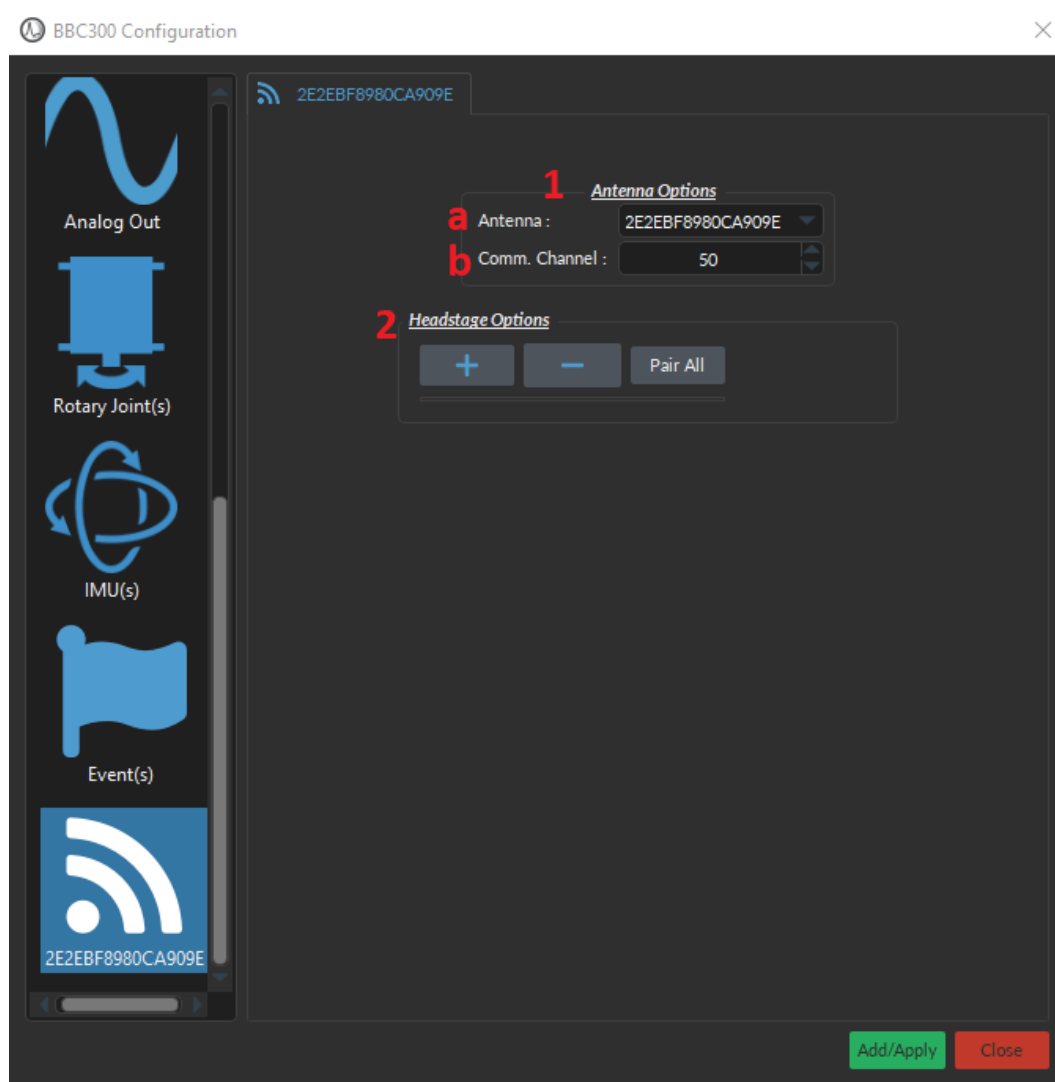

Figure 10.39: Channel(s) configuration window, Wireless Photometry
1. The **Antenna Options** (Fig. 10.39, 1) including:
- a) The **Antenna** (Fig. 10.39, a) displays an ID code assigned to each base-station to facilitate distinguishing them. The same ID number is also labeled directly on the base station hardware. Note that the BBC300 console can support up to 4 base-stations, each pairing 1 headstage maximum.
- b) The **Comm. Channel** (Fig. 10.39, b) corresponds to the channel on the 2.45 GHz radio band, offering 9 selectable options ranging from 10 to 100. Every time the base-station is set up for data acquisition, the user can select freely any of the channels. However, note that in each environment, some of those channels might be already occupied by nearby devices like cell phones and laptops, resulting in weaker wireless link due to noise in that occupied channel. In such cases, it is recommended to use a different channel for pairing with the base-station.
2. The **Headstage Options** (Fig. 10.39, 2) allows pairing and setting up each headstage separately. Once the plus button is clicked, additional parameters will appear with the following options: